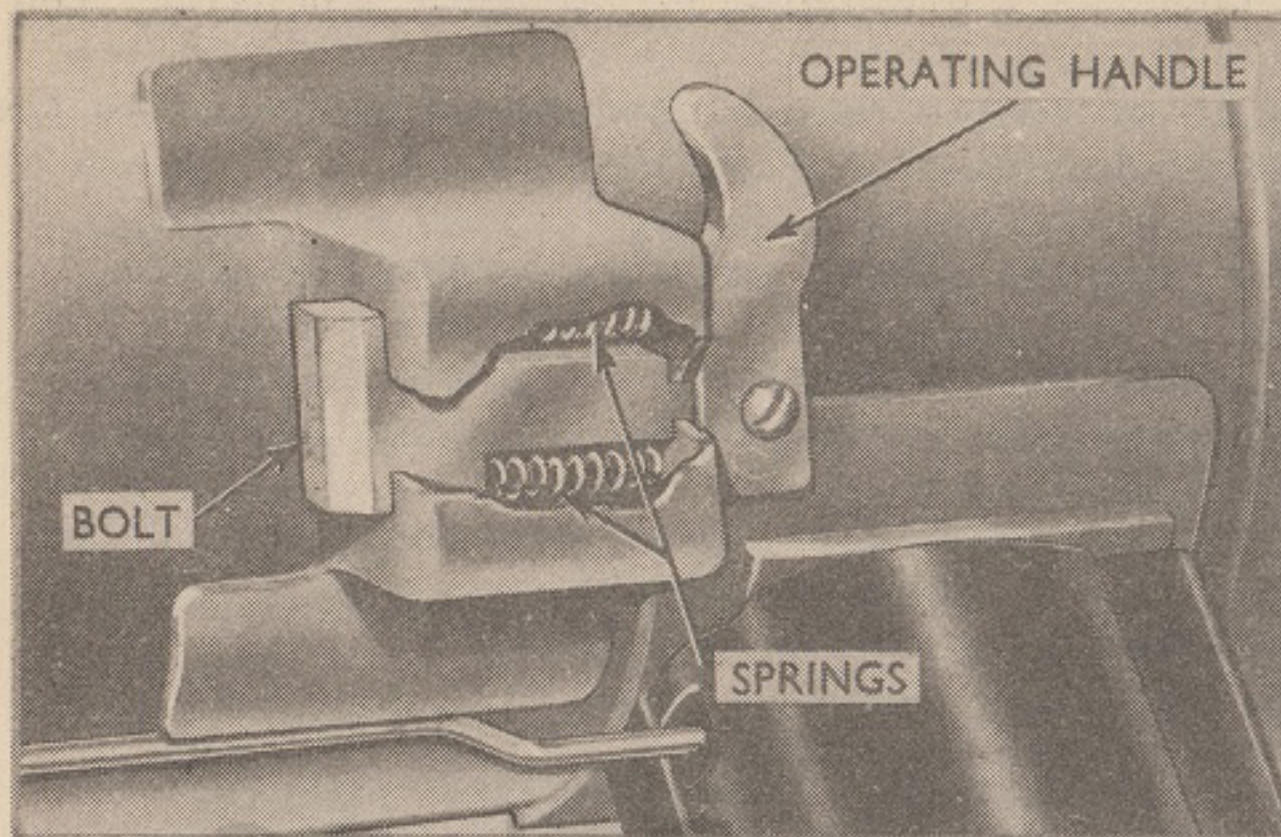

Fig. 7 Latch Bolt Assembly
10.0. The latch bolt and operating handle (Fig.7) are located on the right side of the rear barrel behind the trigger grip. The bolt engages a bracket on the front barrel and is used to secure the two parts of the barrel in the carrying position. The bolt and its two springs are housed in a frame and are operated by a small handle which when moved to the front will release the bolt from the bracket on the front barrel.